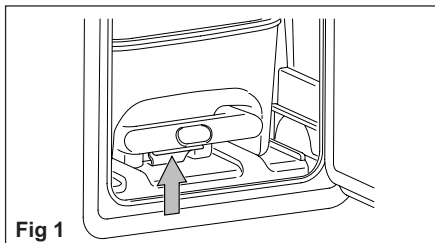

Fig 1
2. Unlock the cassette tank by pushing the lock upwards (fig 1).